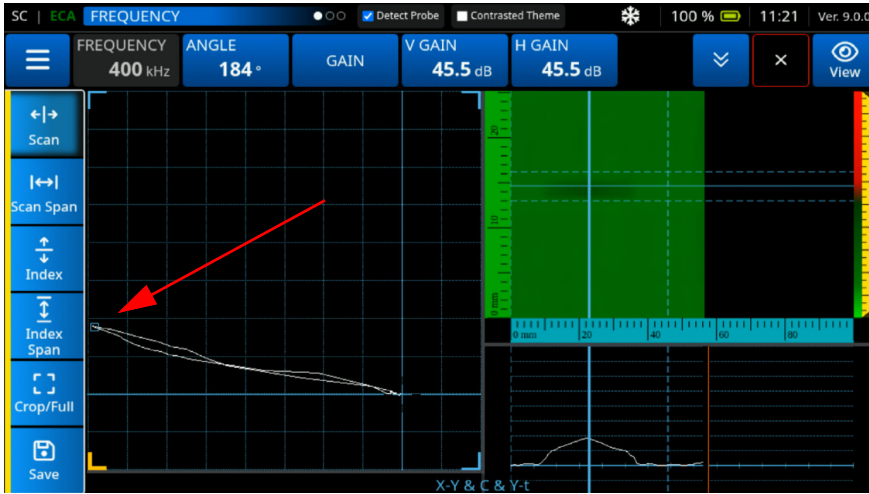

Figure 4-31 Adjust the Gain
13. Adjust the **Gain** until you reach a **Full Horizontal Screen** deviation on the XY plane representation (See Figure 4-31 on page 144).